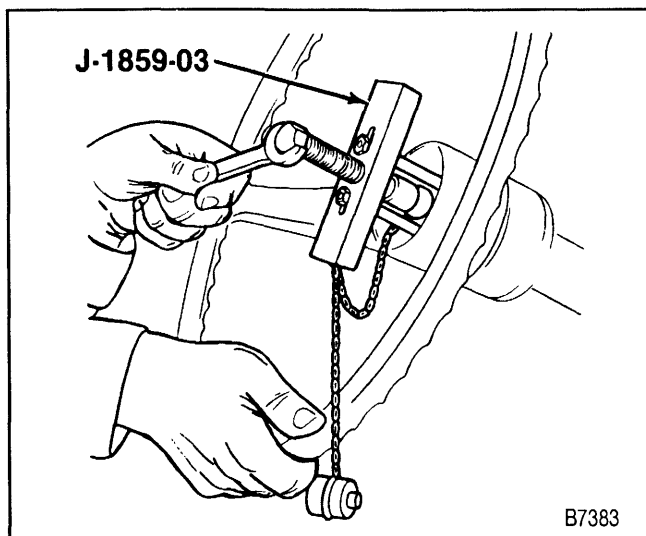

Figure 6—Steering Wheel Removal
4. Steering wheel, using J 1859-03 (figure 6). Do not hammer on the puller, or damage could result to the steering column.